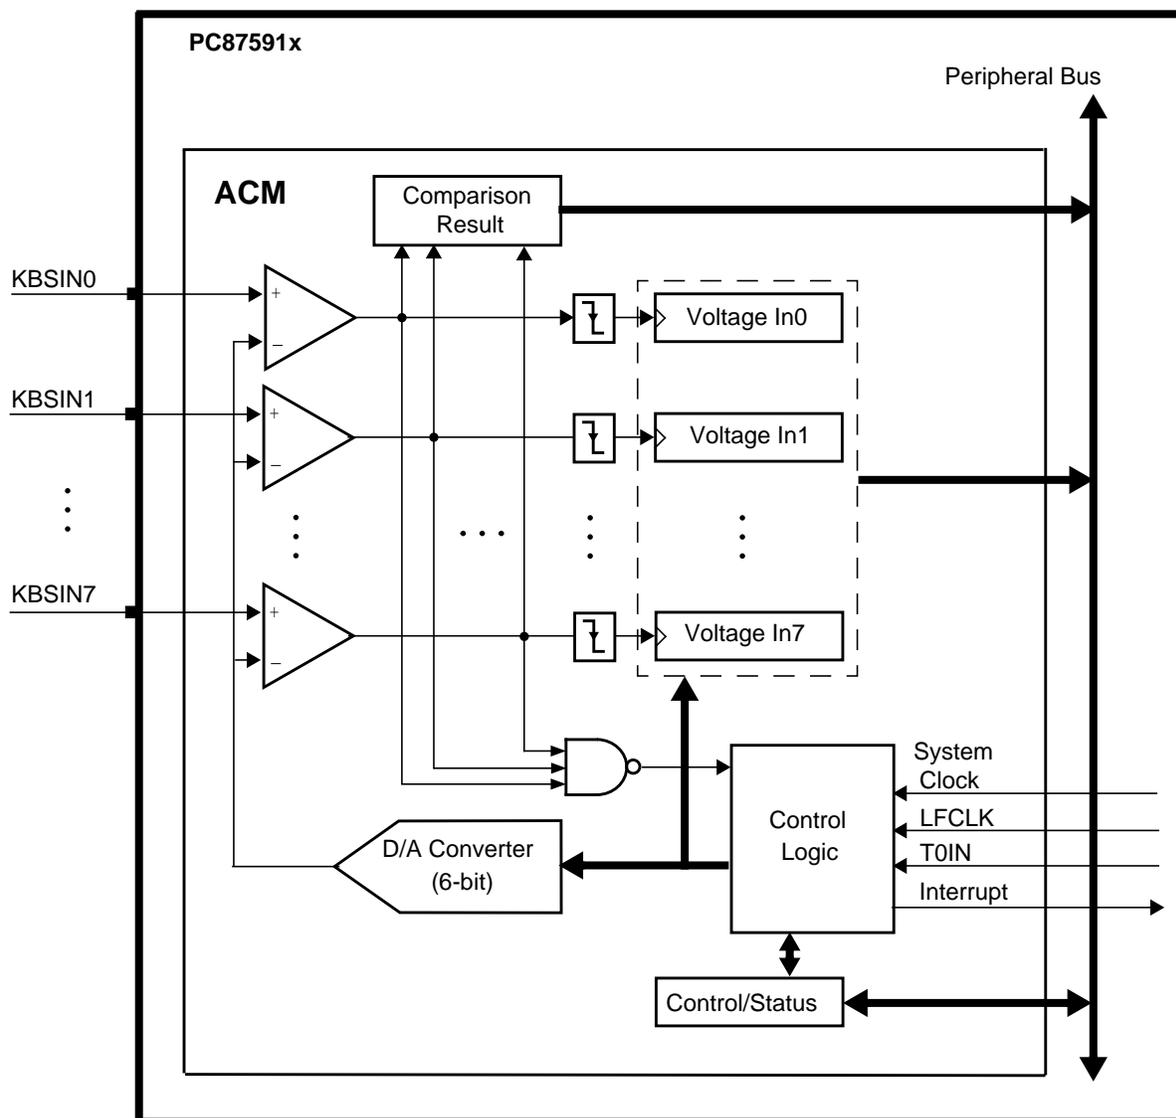

Figure 74. ACM Functional Diagram
**Inputs.** The ACM has eight analog inputs with a voltage ranging from 0V to  $V_{CC}$  (FS), as shown in Figure 74. The voltage level at each input is compared with a reference level, generated by a 6-bit D/A converter.